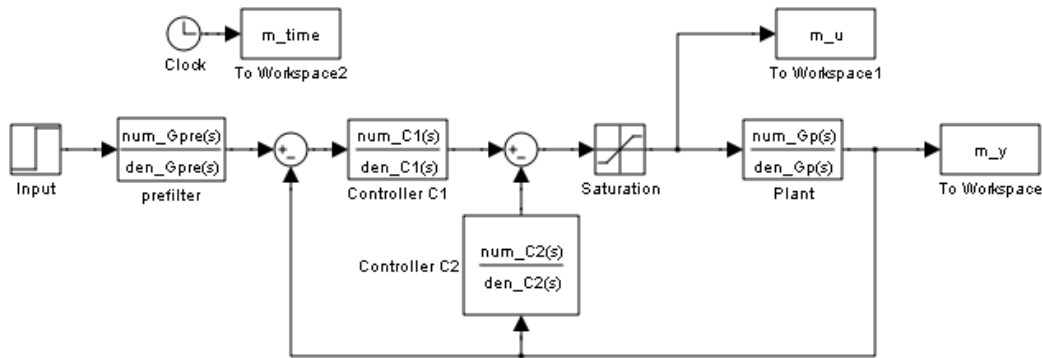

Figure 10: PI-D and I-PD Simulink model
The PI-D controller avoids the set-point kick by putting the derivative in the feedback path, while the I-PD controller avoids the set-point kick by placing both the derivative and proportional terms in the feedback path. Both types of controllers can be implemented using the Simulink model shown in Figure 10, which you will construct and name appropriately.
4. Rename the ECP simulation file, **closedloop.mdl** as **closedloop_PID_<your initials>.mdl**. Modify the new simulation model by creating the block diagram shown in Figure 10. Change the **sim** function in the **closedloop_driver.m** to call the new simulation file, **closedloop_PID_<your initials>.mdl**.
5. Rename the ECP driver file, **Model_210_Closedloop.mdl** as **Model210_PID_<your initials>.mdl**. Modify the new hardware model by creating the block diagram shown in Figure 10.